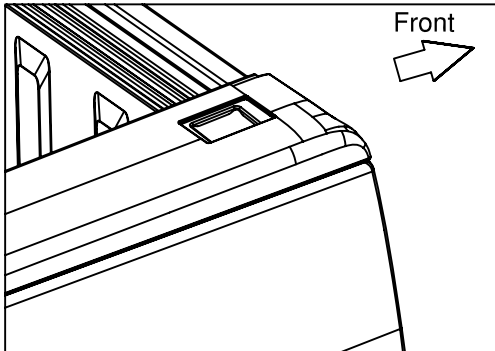

Fig. 1
1. Using a utility knife with an adjustable depth of cut, set the cut depth to 1.5mm, then cut the indented stake pocket locations out. (See Fig. 1)